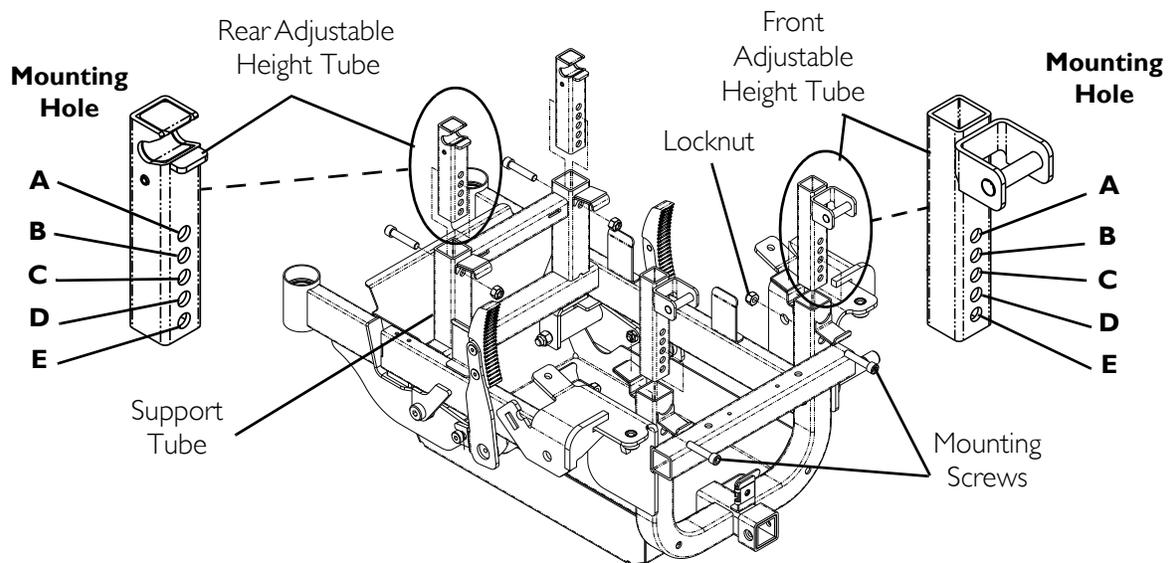

FIGURE 8.5 Adjusting the Seat Height
NOTE: For this procedure, refer to FIGURE 8.5 on page 58.
4. Reinstall mounting screw and locknut (FIGURE 8.5). Securely tighten.